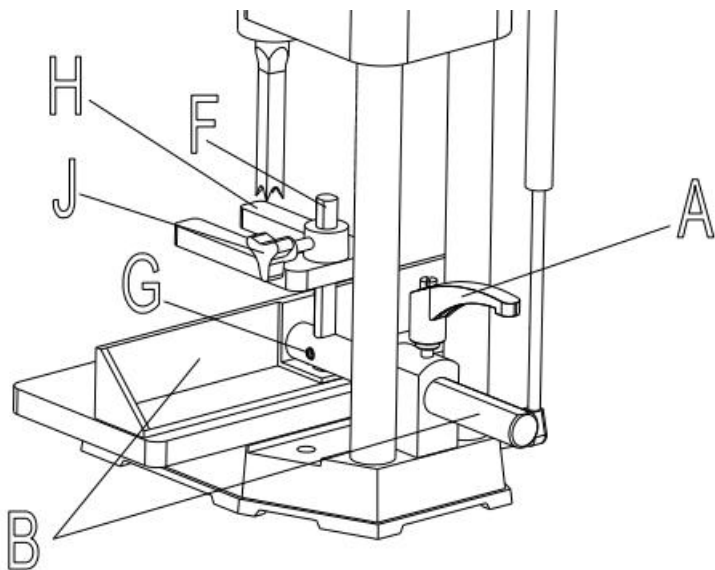

Fig.7
1.Locate handle assembly and remove screw (A) Fig.7, and spring (B) from handle (C). Sperate handle (C) from stud (D).
2.Insert bar of fence assembly (E) Fig. 7, through hole in column as shown.
3.Insert bar (F) Fig. 7, into hole on top of fence as shown, and tighten set screw (G) against flat on bar (F).
4.Assemble the hold down (H) Fig. 7, onto bar (F) as shown, and tighten set screw (J) against flat on bar.